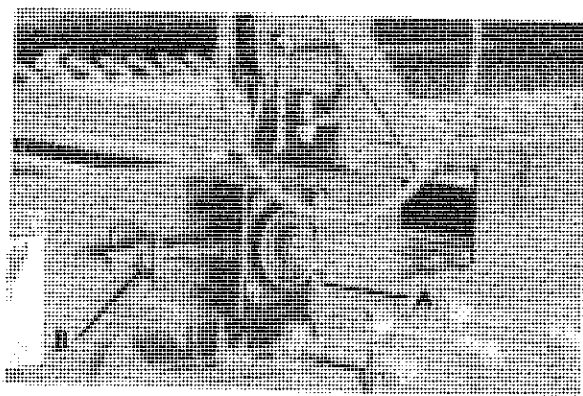

FIGURE 30 - TANK CHAIN TENSIONING
To adjust draper chain in tank conveyor (see figure 30), loosen bracket bolts (A). Using take-up bolts (B), tension both sides equally so draper chain just clears guides under tank. Reinstall and tighten bolts. Check tension frequently.